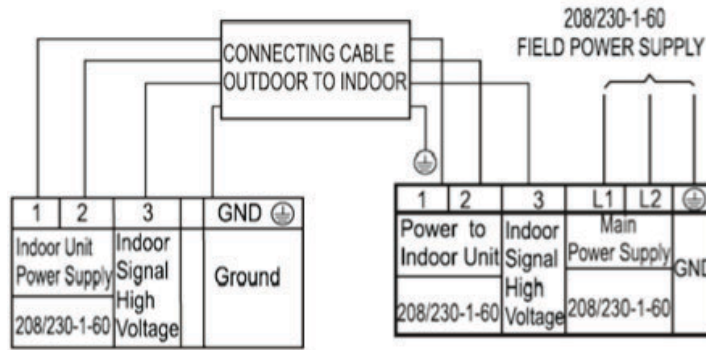

Fig. 27 — Connection Diagram Size 24K
2. Connect wiring from the outdoor unit per the connection diagram (see Fig. 27 and 29).